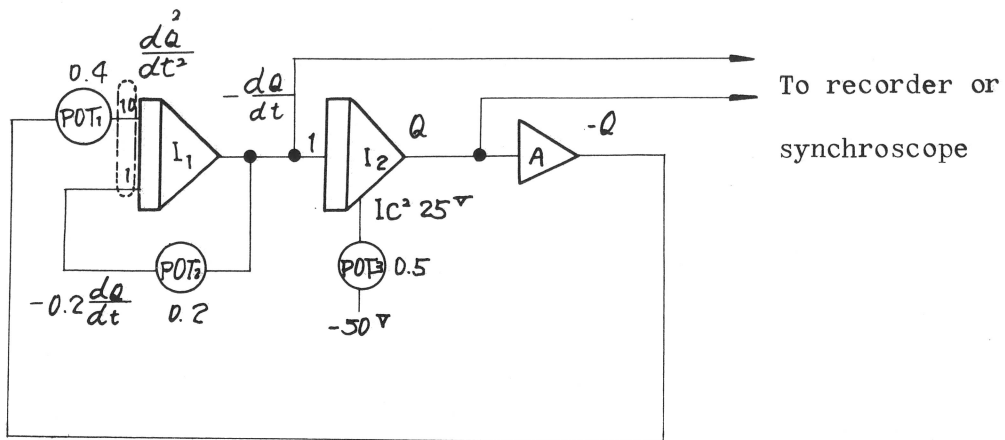
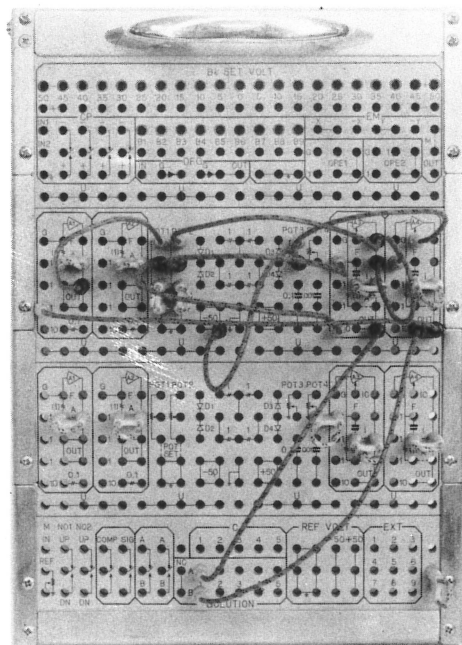

Fig. 10-9
Fig. 10-10
The solution is obtained by the analog-computer HITACHI 303 by programming the equation (13) on the patch board. The block diagram is shown in Fig. 10-9 and the patching example in Fig. 10-10.